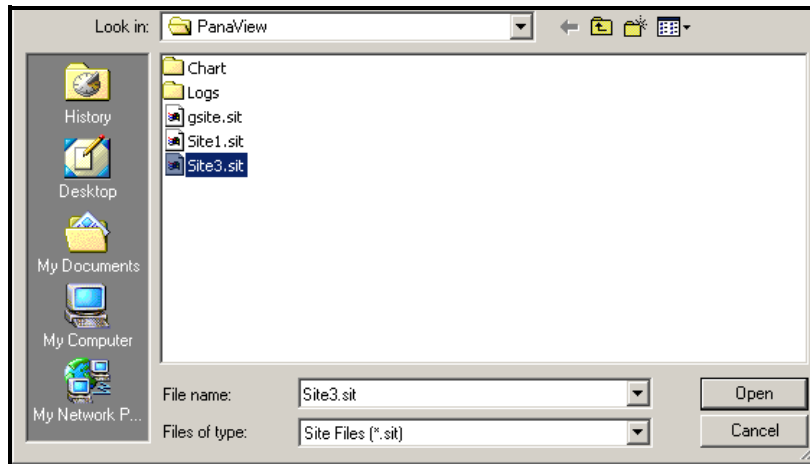

Figure 32: *Site File Selection*
2. Then click on the *Save Site to Meter* button. A screen opens similar to Figure 32 below.
3. The *Site File Selection* window (Figure 32 on page 102) opens. Highlight a site with the desired settings, and click [Open]. PanaView saves the site in the meter with the new name and the desired settings.
3. The *Site File Selection* window (Figure 32 on page 102) opens. Enter the desired site name (now with a .prt suffix) and click [Save]. PanaView displays a text version of the site, as shown in Figure 34 below.